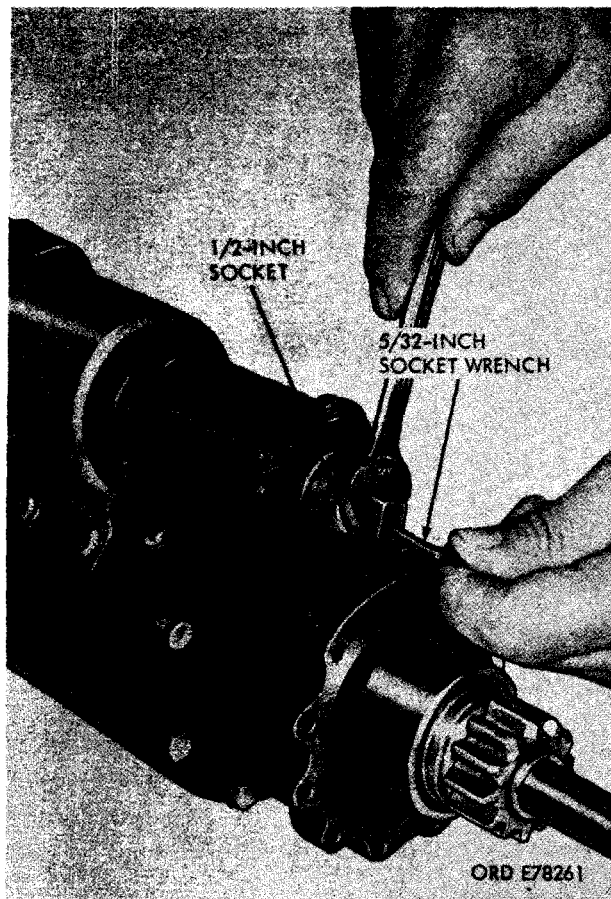

Figure 4-2. Remove or installing self-locking nut from solenoid relay shaft.
(2) Remove $5/16$ -inch self-locking nut from solenoid shaft by sliding $1/2$ -inch socket (fig. 4-2) and hollow shaft driver on nut. Hold shaft with $5/32$ -inch socket wrench (fig. 4-2),